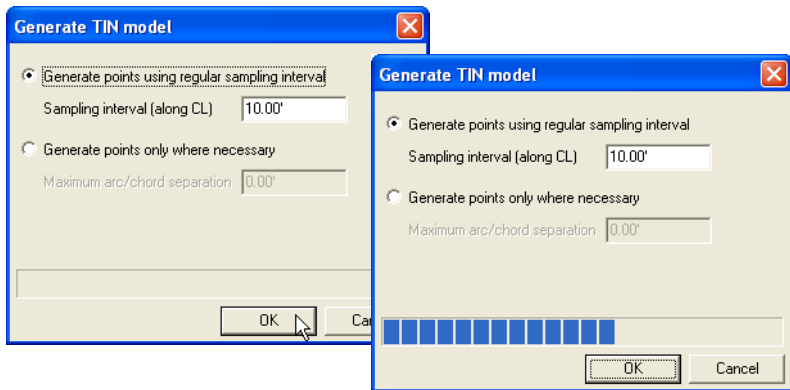

Figure 5-7. Select TIN Generation Parameters and Generate TIN Model
2. On the ***Generate TIN model*** dialog box, select the desired generation parameter, and click **OK** (Figure 5-7 on page 5-7).